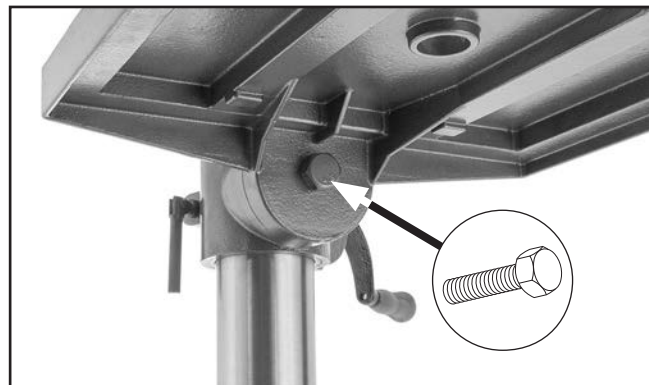

Figure 40. Location of hex bolt.
1. Loosen hex bolt shown in **Figure 40**.